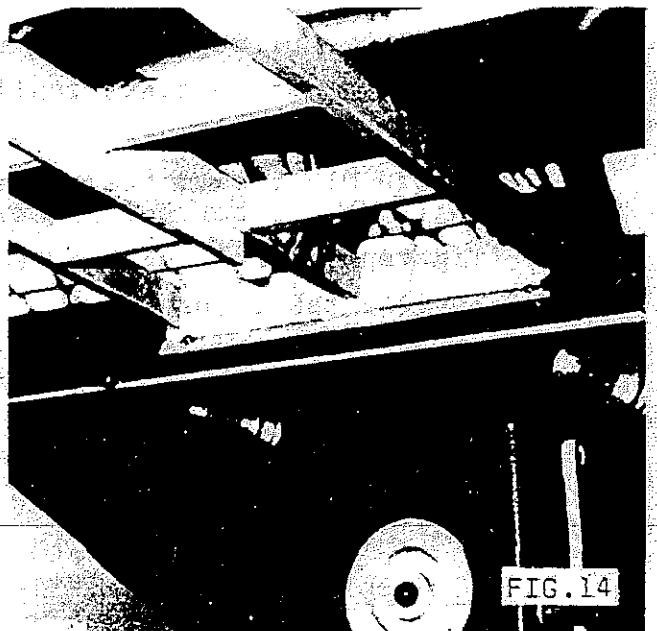

FIG. 14
- 4) Lift table FIG.14 and locate table on the 2 slide bar studs. Locate nylatron outer support on under table web as shown.FIG.15 Secure table by 2 - M8 aerotight nuts.